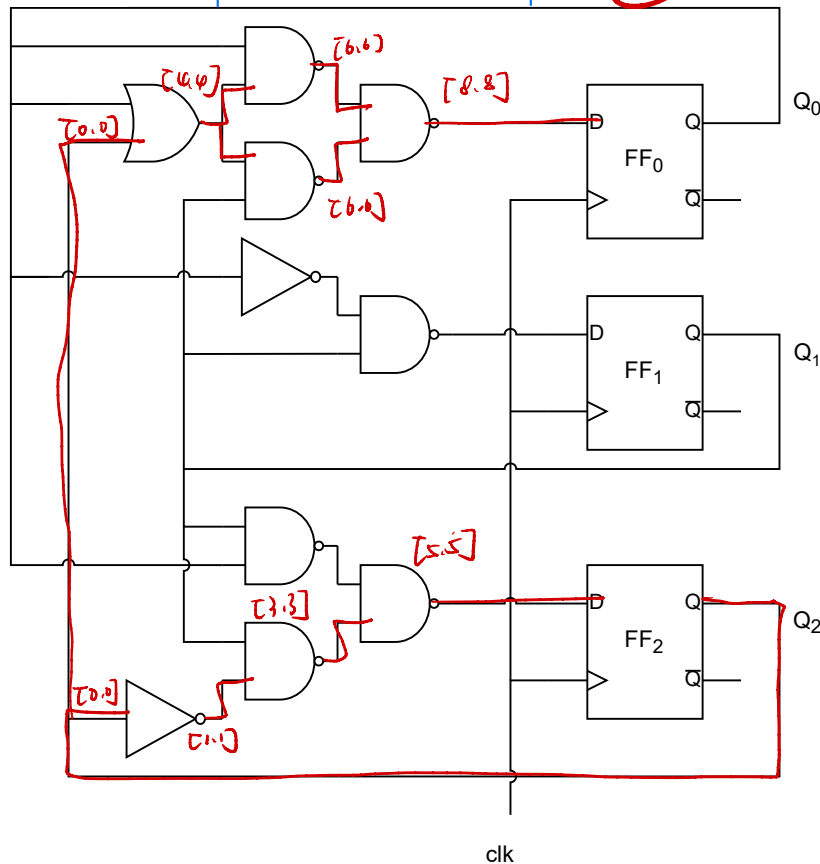

Figure 1: Circuit for problem 2
2. **[35 points]** *Sequential Circuit Timing Analysis 1:* Assume the timing parameters in Table 2 for timing analysis of the circuit in Figure 1.
2. [35 points] Sequential Circuit Timing Analysis 1: Assume the timing parameters in Table 2 for timing analysis of the circuit in Figure 1.